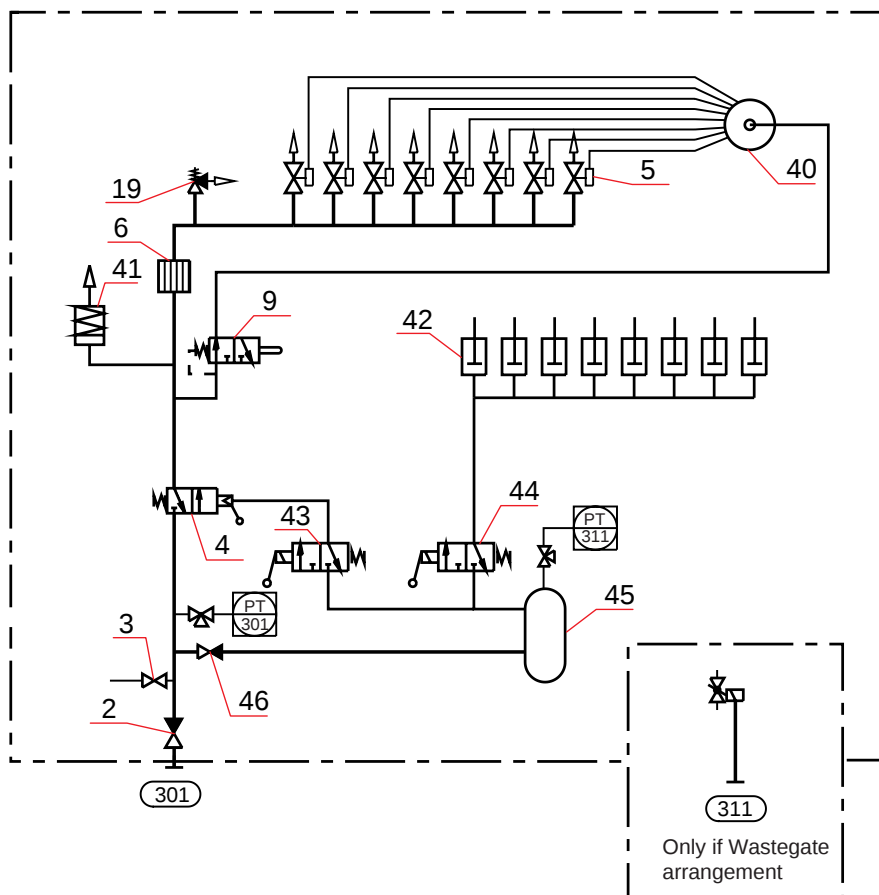
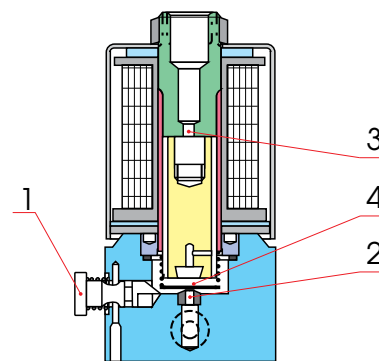

Fig 21-4
Fig 21-5
The main starting valve (4), which is described in detail in section 21.2, is actuated by the solenoid valve (43) at remote start. Fig 21-5 shows the solenoid valve. The valve is equipped with a push button and can be energized manually.
Solenoid valve (43 and 44, Fig 21-4). In case of disturbance in the electric function of the valve, test the valve by pushing the button (1), see Fig 21-5. Should there be a mechanical malfunction, open the valve using a special tool.